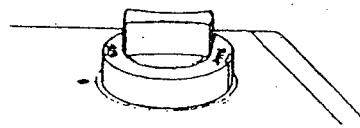

Figure 14
2. Press in control knob and turn clockwise  to the OFF position (see Figure 14).